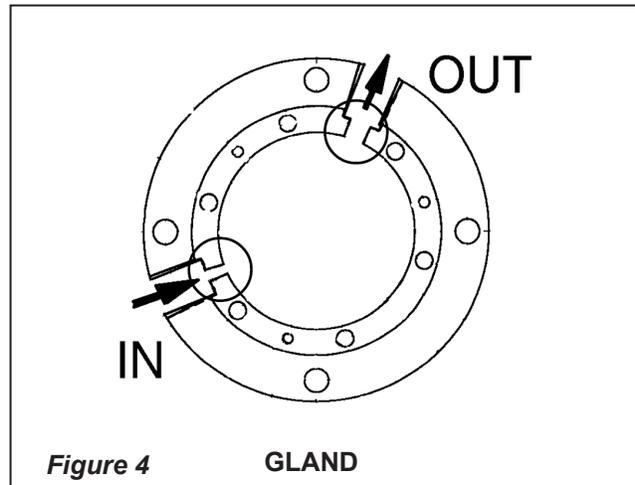

Figure 4
The mill is equipped with a face type seal which must be water cooled. The **IN** and **OUT** ports for introducing the water to the seal are located in the gland (1) They are 1/4-inch pipe nipples, but the **IN** hole is smaller than the **OUT** hole to prevent over-pressurizing. (Figure 4)